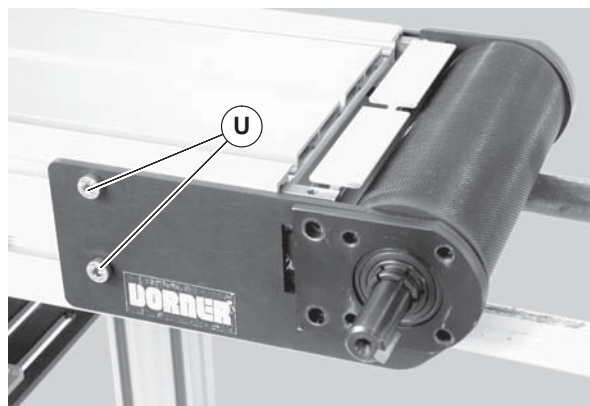

Figure 62
5. On the drive headplate, remove two (2) screws (Figure 62, item U).